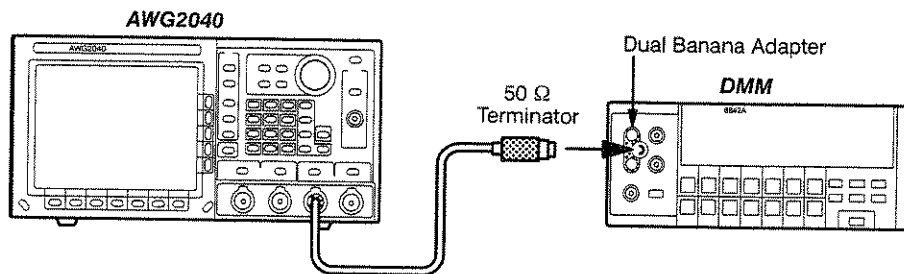

Figure E-16: Marker Level Initial Test Hookup
- a. *Hook up the DMM:* Connect the AWG2040 MARKER1 output through a 50 Ω coaxial cable, a 50 Ω precision terminator, and an adapter (BNC–to–dual banana) to the DMM input connector (see Figure E-16).